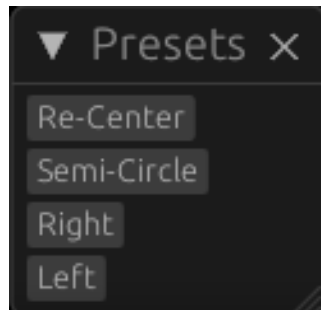

Figure 10: Presets
3. Presets (Figure 10): Allows the user to select from several preset location options: